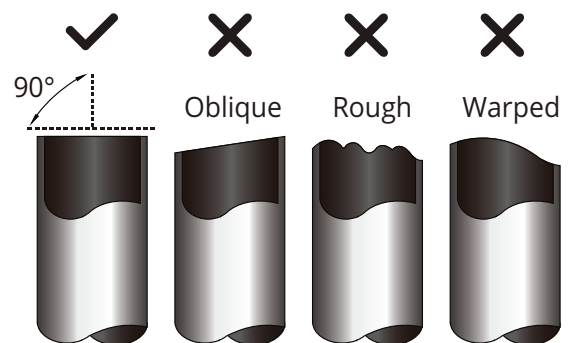

Fig 5.1
3. Make sure that the pipe is cut at a perfect 90° angle. Refer to **Fig. 5.1** for bad cut examples.